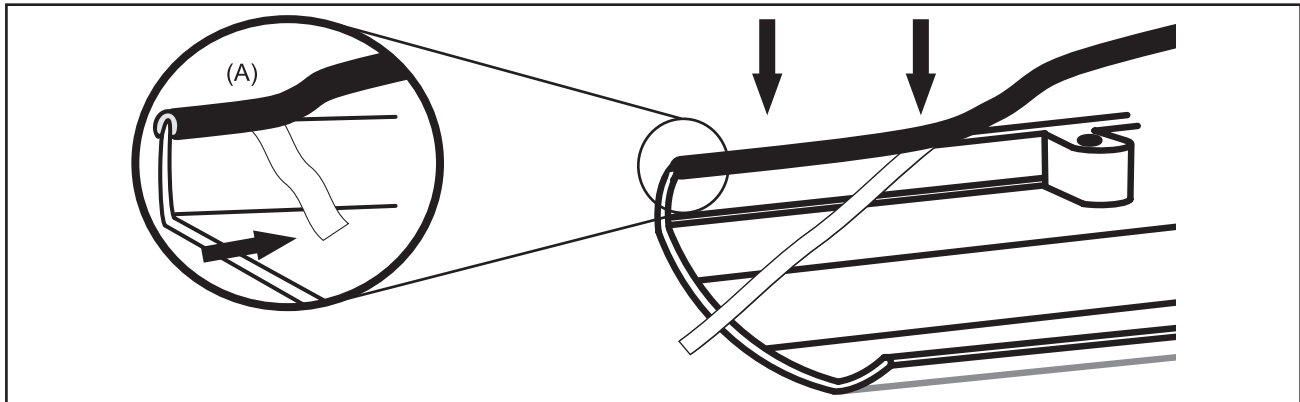

FIG. 1
The Edge Trim (A) has an adhesive backing on the inside which is covered with a red vinyl strip. Peel about 2 to 3 inches of the backing away and press the trim onto the top edge of the flare. Be sure that the side with the adhesive backing is on the inside edge of the flare as shown in FIG. 1.